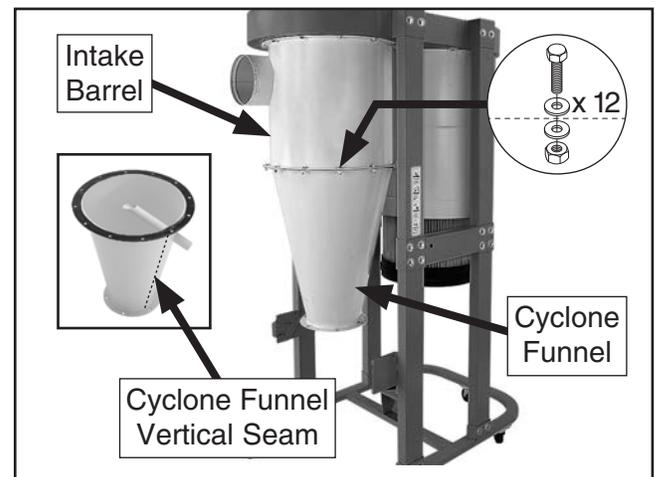

Figure 23. Cyclone funnel attached to intake barrel.
21. While assistant aligns cyclone funnel so vertical seam faces rear of machine, attach to intake barrel using (12) $\frac{5}{16}$ "-18 x 1" hex bolts, (24) $\frac{5}{16}$ " fender washers, and (12) $\frac{5}{16}$ "-18 hex nuts (see **Figure 23**). Finger-tighten for now.